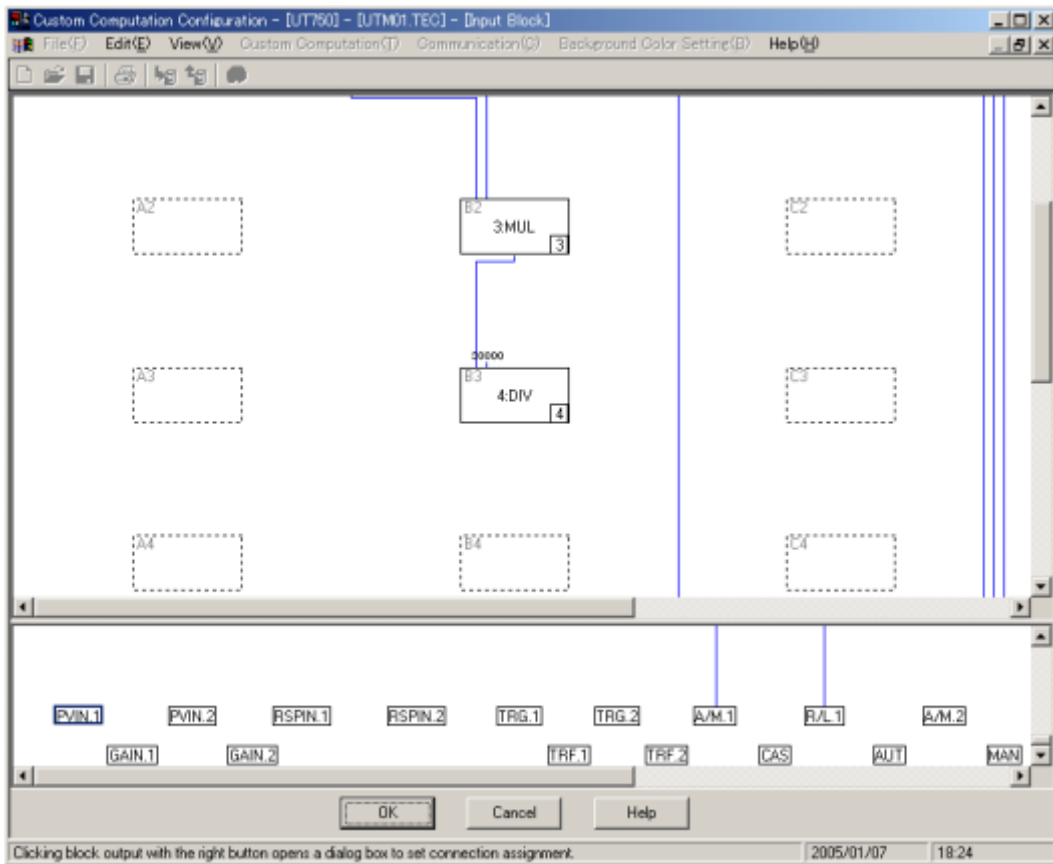

Figure 12.1.11 Output Signal Fed by Input Block
- (1) In the [Input Block] dialog box (Figure 12.1.11), click the <PVIN.1> output signal.